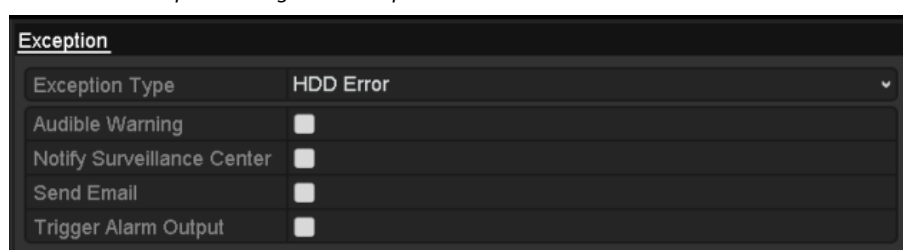

Figure 13. 29 Configure HDD Error Alarm
3. Click the checkbox(s) below to select the HDD error alarm type (s), as shown in Figure 13. 29.